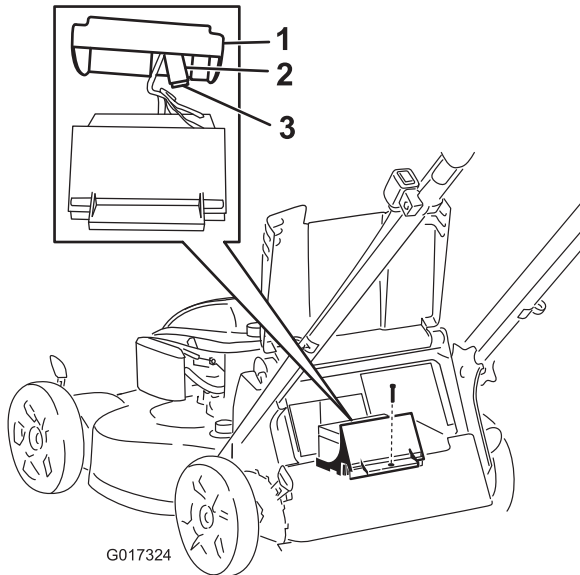

Figure 36
4. Remove the screw that secures the battery compartment, pull out the battery, and locate the fuse (Figure 36).
5. Replace the fuse in the fuse holder (Figure 36).